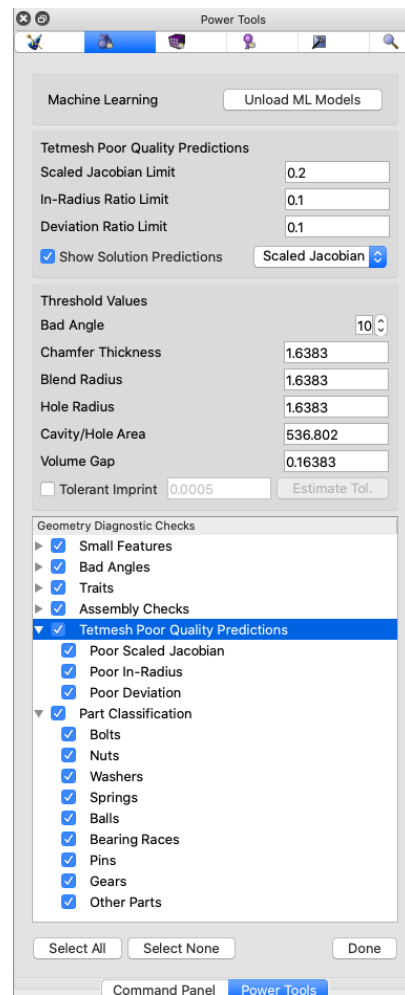

Figure 3. Options panel after loading ML models.
4. Once ML models have loaded, additional diagnostics will be available for selection as shown in Figure 3. These include **Tetmesh Poor Quality Predictions** and **Part Classification**.